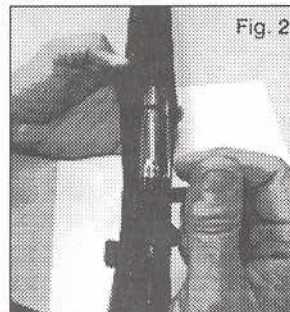

Fig. 2
- 2) Fig 2: Your rifle is shipped with the bolt removed from the receiver. Move bolt stop out, align bolt lugs on receiver, insert bolt into the rear of the receiver while holding bolt stop out, push bolt forward with bolt handle.